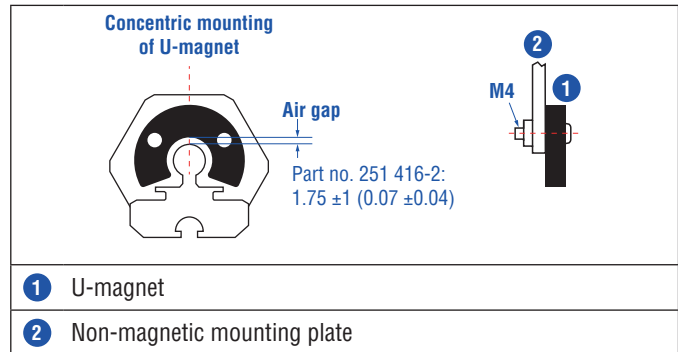
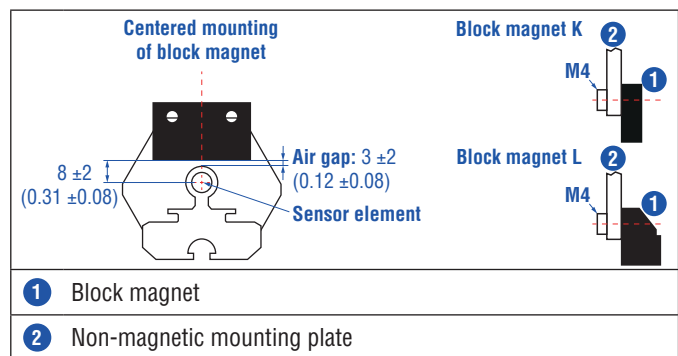

Fig. 35: Mounting of U-magnet (part no. 251 416-2)
Fig. 36: Mounting of block magnet (part no. 403 448)
- The maximum permissible air gap must not be exceeded (Fig. 35/Fig. 36). Take care to mount the primary sensor axis in parallel to the magnet path in order to avoid damage to the carriage, magnet and sensor rod/sensor profile.